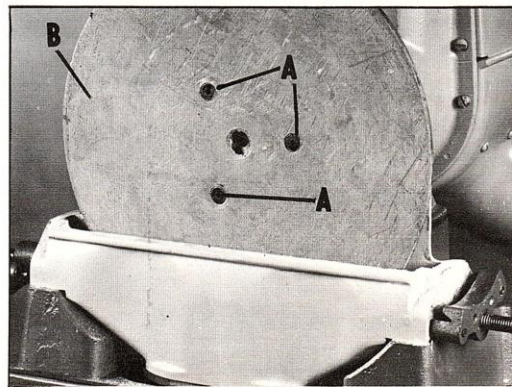

Fig. 21.
4. Remove three socket screws (A) Fig. 21, and remove disc wheel (B).